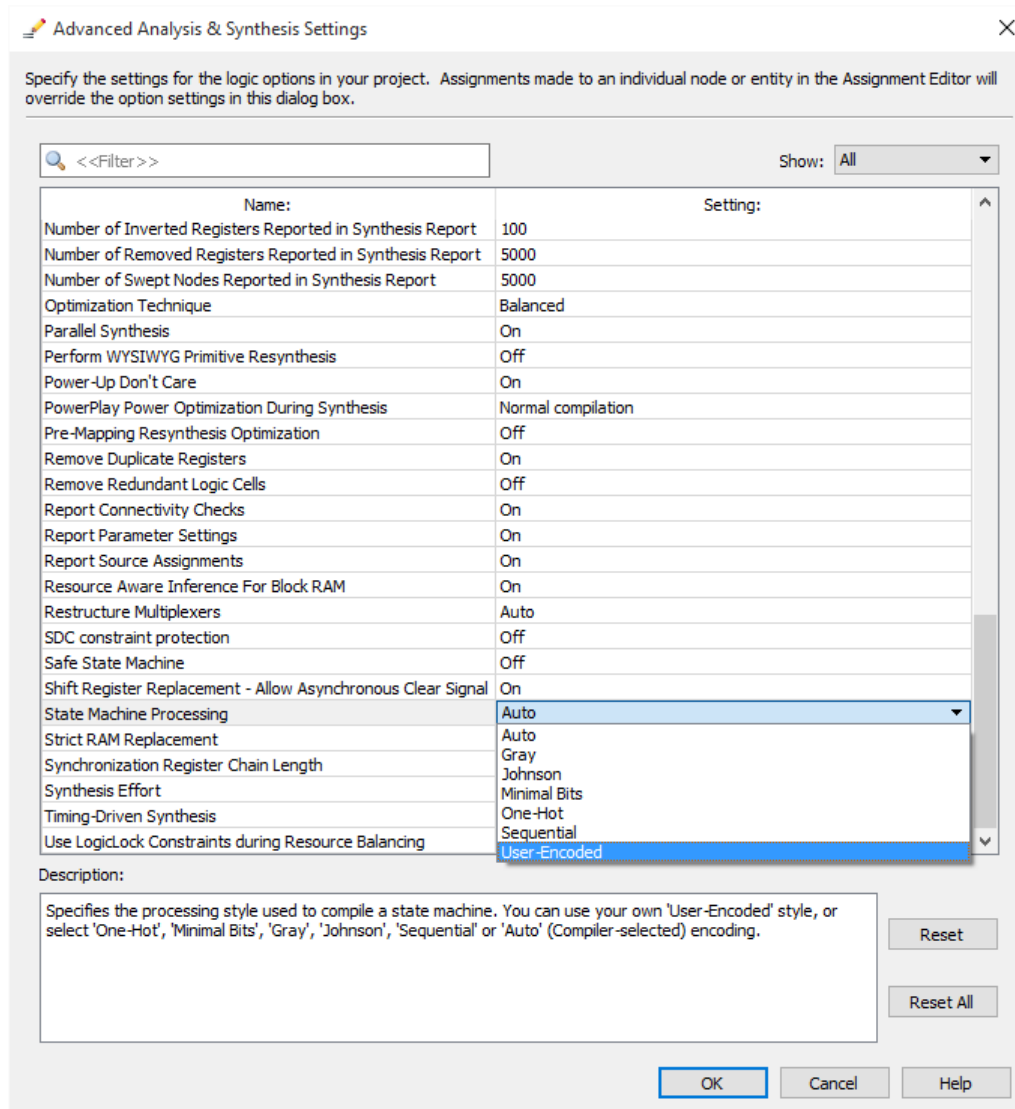

Figure 4: Specifying the state assignment method in Quartus.
4. Before compiling your code it is necessary to explicitly tell the Synthesis tool in Quartus that you wish to have the finite state machine implemented using the state assignment specified in your Verilog code. If you do not explicitly give this setting to Quartus, the Synthesis tool will automatically use a state assignment of its own choosing, and it will ignore the state codes specified in your Verilog code. To make this setting, choose **Assignments > Settings** in Quartus, and click on the **Compiler Settings** item on the left side of the window, then click on the **Advanced Setting (Synthesis)** button. As indicated in Figure 4, change the parameter **State Machine Processing** to the setting **User-Encoded**.